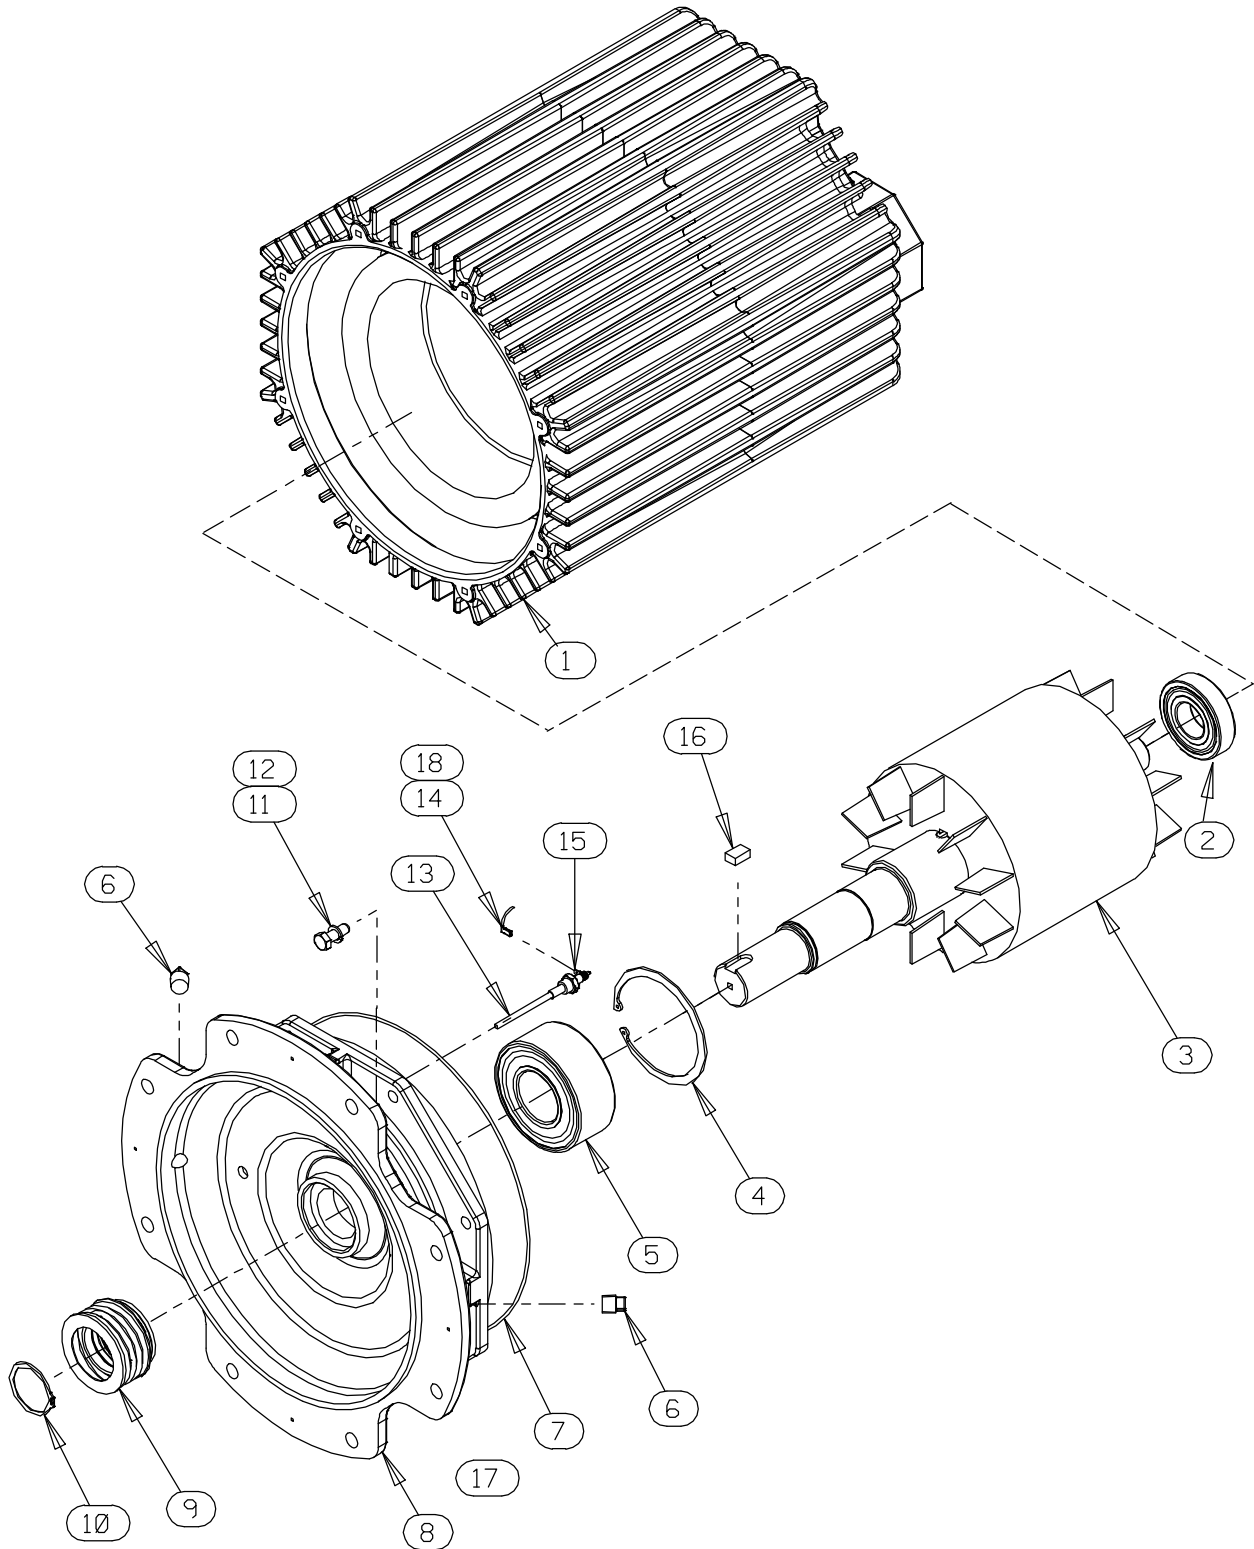

Figure E-2. 47111-848 and -849 Motor Assemblies
(Figure E-2)
To remove the impeller, use two thin-bladed screwdrivers positioned 180° apart to pry on the back of the impeller and “walk” the impeller off the shaft. Use increasingly larger screwdrivers (or wedges) as necessary. After the impeller comes free of the shaft, retain the impeller key (16, Figure E-2).
An alternate method of removing the stationary element is to remove the screws (11) securing the seal plate (17) to the motor assembly (20). Pry the assembled seal plate and stationary element off the shoulder of the intermediate (8, Figure E-2). Remove the O-ring (16) and press the stationary element and seat out of the seal plate from the back side.